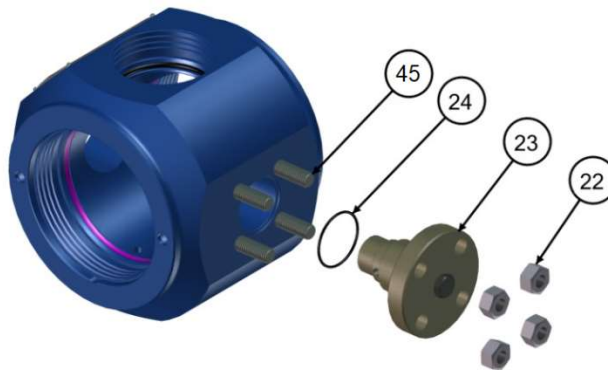

FIGURE 12
- 1) Lubricate the o-ring (24) (**FIGURE 12**) and install it onto the trunnion (23).
- 2) Mount the trunnion onto the studs (45), do not thread the nuts (22) on the studs at this time.